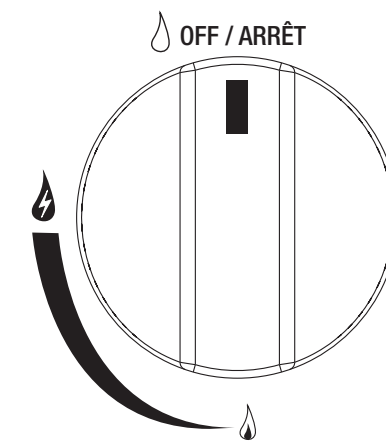

Figure 3
2. Make sure the control knobs are in the "OFF" position (Figure 3).
1. Make sure the control knob is in the "OFF" position (Figure 3).
2. Make sure control knobs are in the "OFF" position (Figure 3).
- The control knobs must be in the "OFF" position (Figure 3).